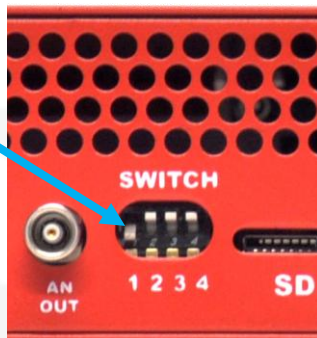

Figure 21: SWITCH position for normal use
- Set the SWITCH #1 on the rear panel to be positioned low, as illustrated in Figure 21;